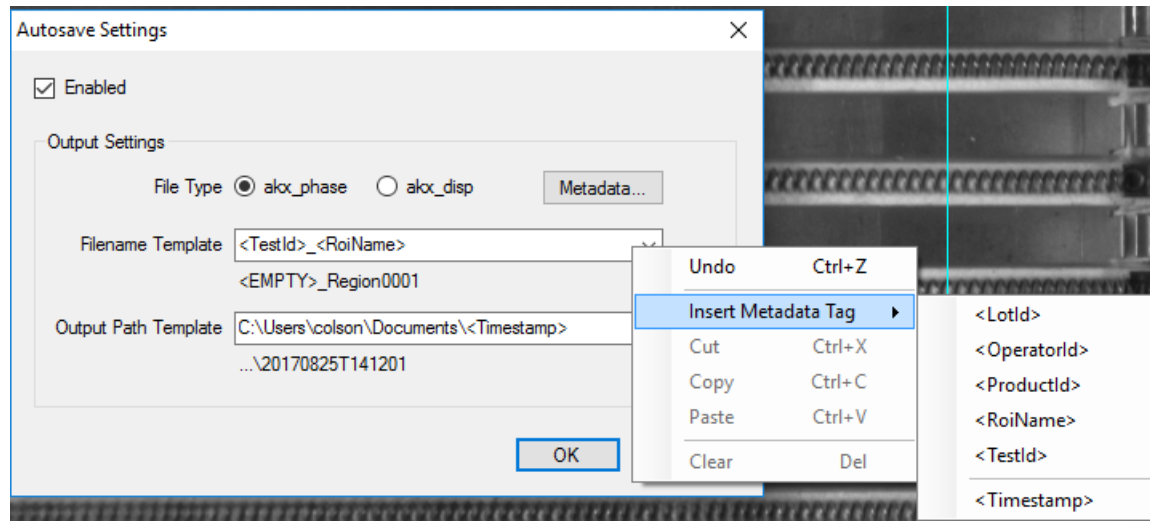

Figure 2.24 Autosave Settings
- **Autosave Settings** – Allows the user to control autosave settings for phase and displacement measurements acquired in this program. Metadata settings can be used to populate filenames, as shown in **Figure 2.24**. See **Appendix A.1.1** for available Metadata fields.